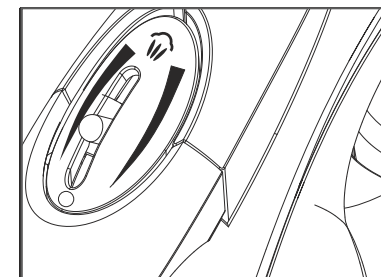

Fig.2
1. Set the steam control knob to "0" position as shown in figure 2.